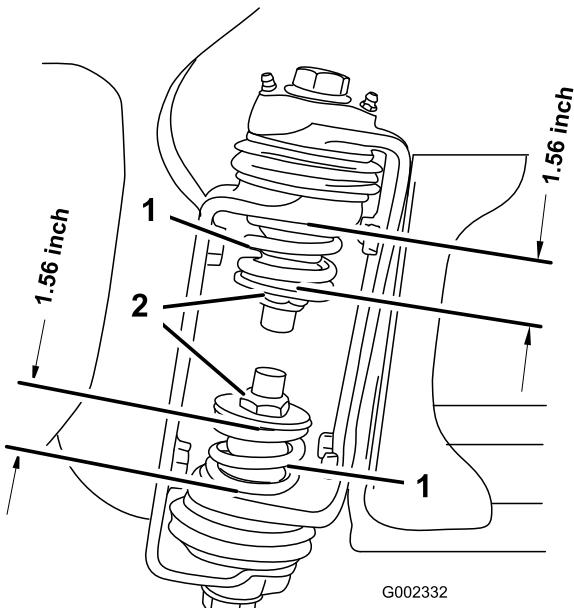

Figure 27
3. At the boom hinge, measure the compression of the upper and lower springs while the booms are in their extended position (Figure 27).